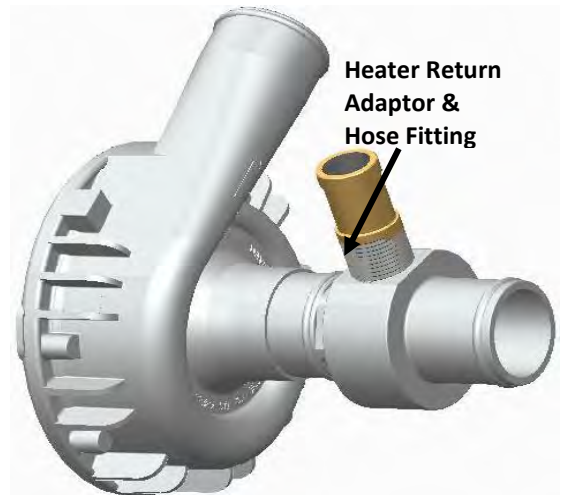
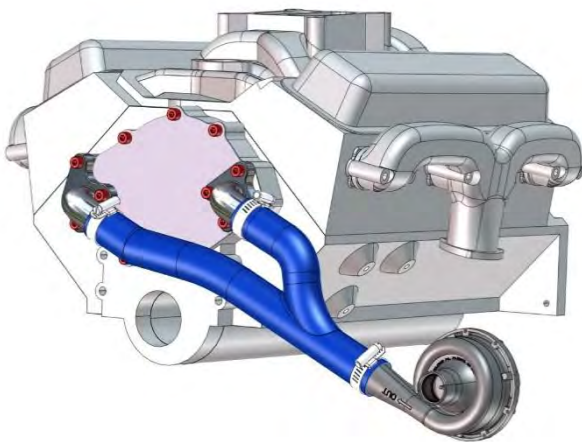

Figure 5
Figure 6
9. Slide the adaptor hose over your EWP® outlet (refer figure 6). Screw the heater return adaptor & hose fitting (figure 5, if applicable) into the EWP® inlet then position and align the EWP® with the bottom radiator outlet. Secure heater return hose to hose fitting. Check you have enough length of bottom connector hose (refer figure 5). A section of your current bottom radiator hose may be suitable for this purpose. Connect the radiator hose with the fourth hose clamp to the EWP® inlet, and then fit the other end to the bottom radiator outlet.